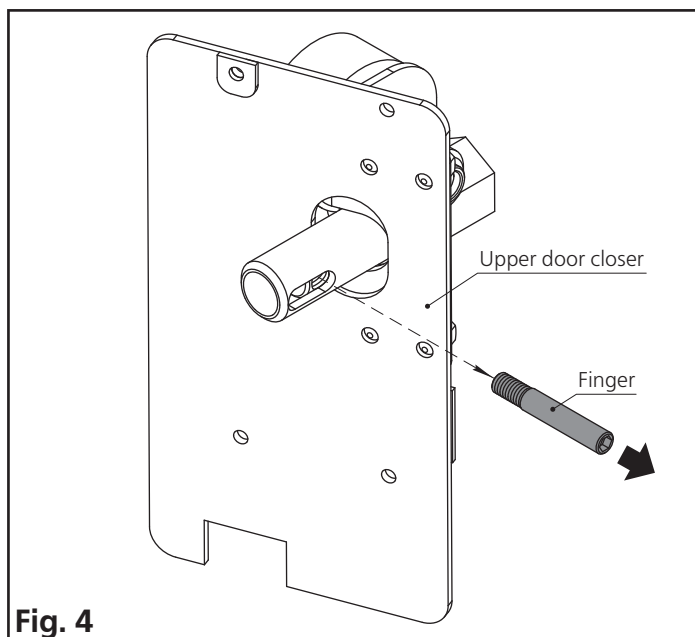

Fig. 4
3. Unscrew the finger of the upper door closer (Fig. 4).